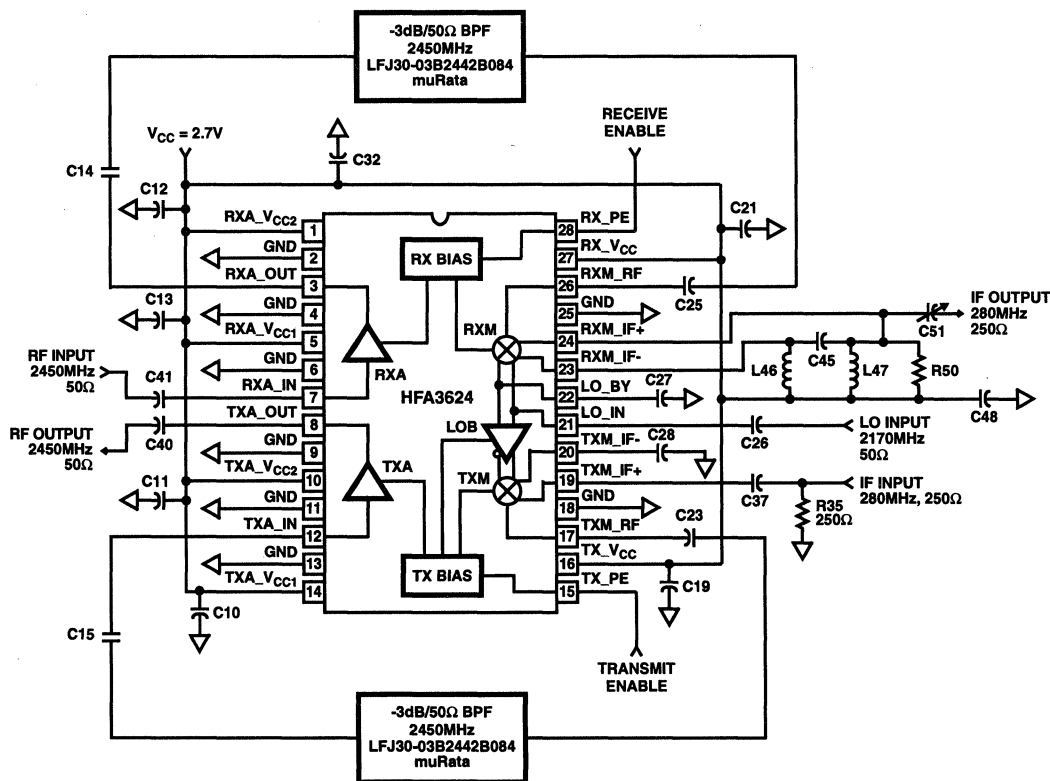

FIGURE 2. DIFFERENTIAL TO SINGLE ENDED IF OUTPUT TRANSLATION WITH 250 Ω IF IMPEDANCE
6. See Figure 2 for Typical Application Circuit.